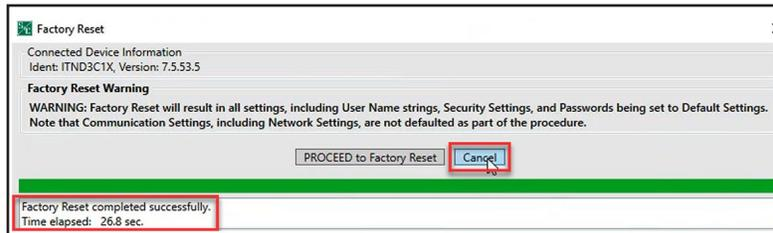

Figure 66. The Factory Reset completed successfully message.
STEP 5. When the **Factory Reset** procedure is completed, click on the **Cancel** button to complete the procedure. See Figure 66.